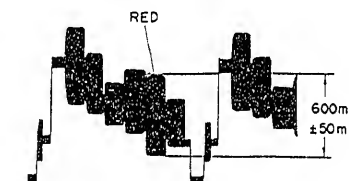

Fig. 4-10
10) Chroma Level Adjustment (Figs. 4-10, 4-52)
(Fig. 4-10)